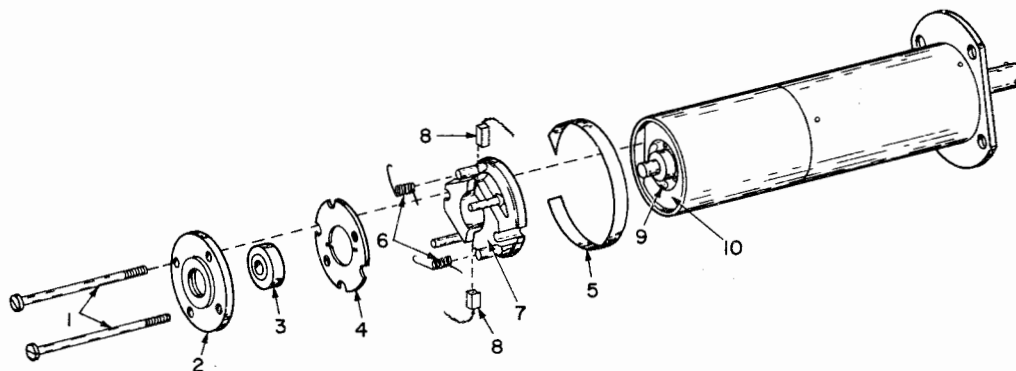

Figure 6-7. R-F Tuner Band Motor, Exploded View
(3) ASSEMBLING. - Refer to figure 6-7 and assembly band-switch motor as follows: